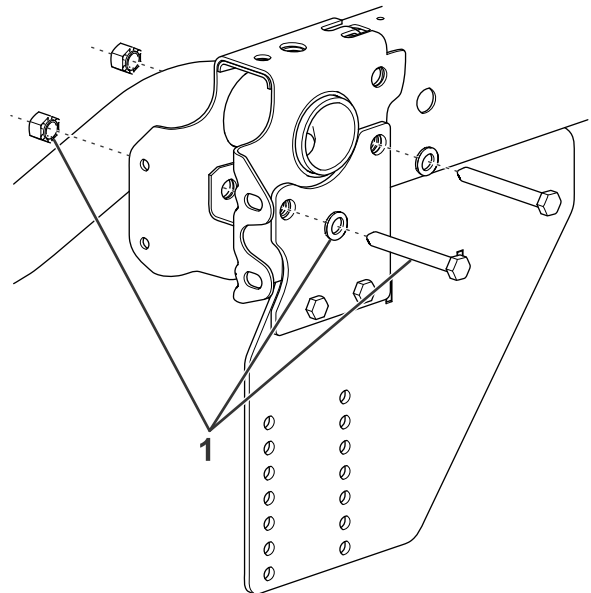

**Figure 4**
5. Loosely attach the bottom of the sidestraps to the sideplates using 2 bolts (1/2 inch) and nuts (Figure 4).